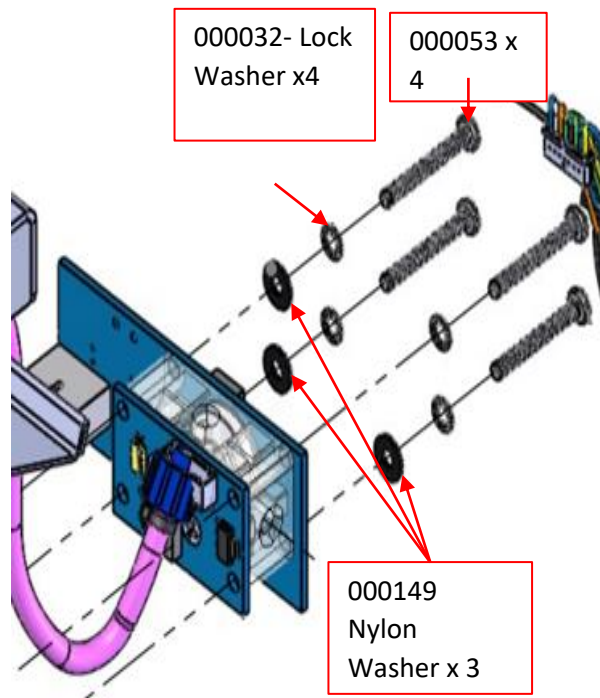

Figure 31
6.3. Install the Reading cell assembly on Reading Cell bracket by using the parts noted in Figure 31.